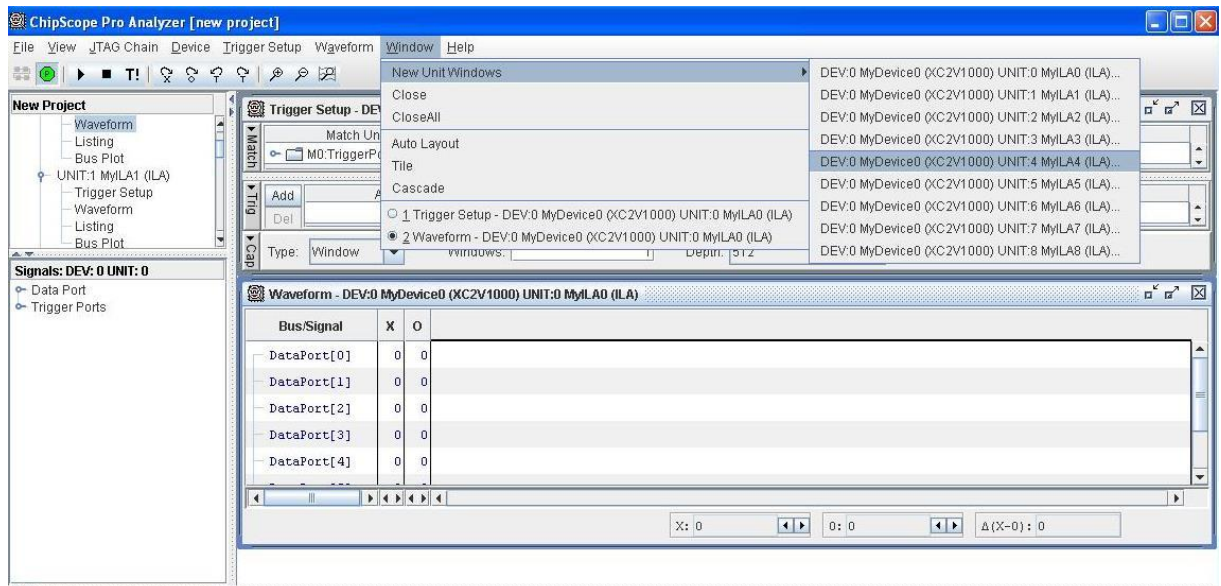

Fig 4.8: waveform window
2. It pops out a dialog box with options which we choose, **Trigger setup**, **Waveform**, **Listing** and **Bus plot** as shown in Fig 4.8.